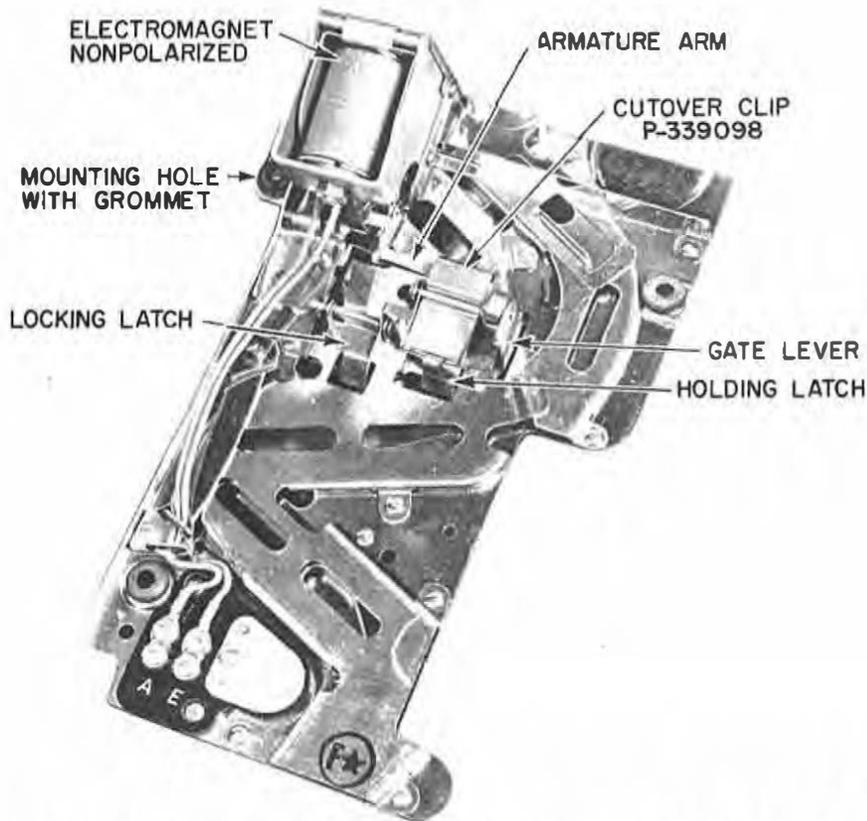

Fig. 14 — Prepay Steel Coin Chute (Equipped with Cutover Clip for 5-cent Service)
- (1) Place P-10E783 cover on coin relay.
- (2) With upper housing locked in place and with handset *off switchhook*, deposit nickel. Nickel shall be held at holding latch. Lower switchhook slowly; coin shall drop into coin return. Make test five times.
- (3) If coin collector is equipped with washer-reject and coin-release mechanism, test as follows:
- (4) With handset *off switchhook*, deposit nickel. Nickel shall be held at holding latch. Deposit second nickel. Second nickel shall release first nickel and permit both coins to pass through coin chute, strike gong, and trip trigger as they drop into hopper. Dial tone shall be heard at dial stations, or operator shall answer at manual stations. Deposit a third nickel. Third nickel shall pass through coin chute (observed by gong tone) and reach trap in coin hopper.
- (5) At dial stations, when dial tone is heard, dial any digit except 1 to break dial tone; then hang up handset. Coins shall drop into coin return on hangup. At manual stations, request that coins be returned when operator answers.
- (6) With handset *on switchhook*, deposit dime. Dime shall pass through coin chute, strike gong twice, and trip trigger. Dial tone or manual operator shall be heard after handset is removed from switchhook.
- (7) With handset *off switchhook*, deposit dime. Dime shall pass through coin chute, strike gong twice, and trip trigger. Dial tone or manual operator should then be heard.
- (8) With handset *on switchhook*, deposit quarter. Quarter shall be stopped by the open gate. Remove handset from switchhook. Gate will be closed, and quarter will be released and strike gong. Dial tone or manual operator shall be heard.
- (9) With handset *off switchhook*, deposit quarter. Quarter shall pass through coin chute, strike gong, and trip trigger, bringing in dial tone or manual operator.
- (10) If cutover clip is used for 5-cent operation, initial nickel deposited shall not be held at holding latch. All other tests shall be the same as above (see Fig. 14).